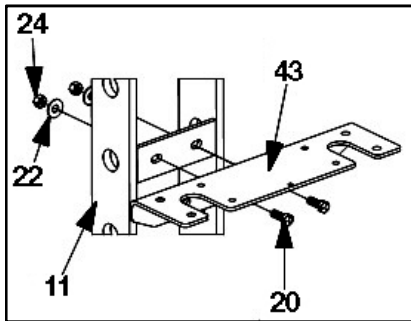

Fig. 6: Install pump bracket
7. Install Pump Bracket [item #43] to Right Hand Upright Frame Weldment [item #11], as shown in Fig. 6, using (2) 3/8" X 1" Grade 5 Cap screws [item #20], (2) 3/8" Washers [item #22], and (2) 3/8" Nuts [item #24].